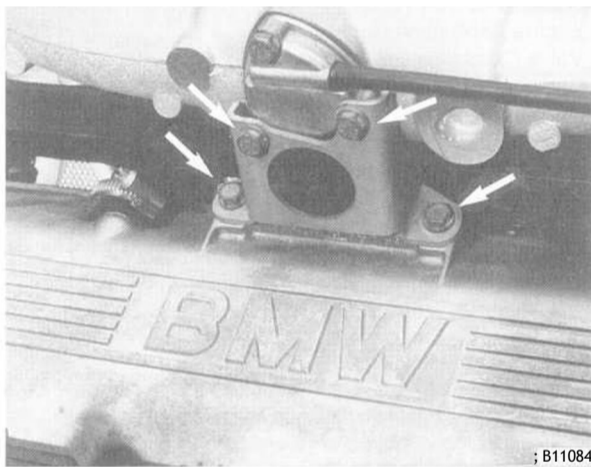

Fig. 1. Intake manifold support bracket mounting bolts (arrows)
1. Remove the intake manifold support bracket. See Fig. 1.